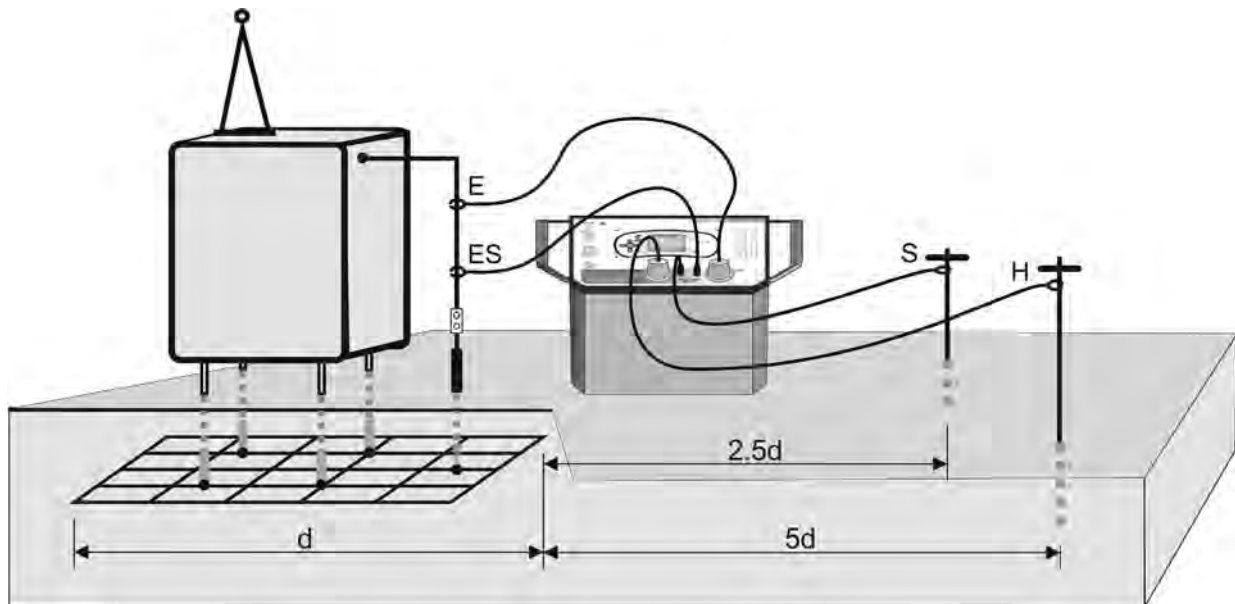

Fig. 24: Connection of instrument for earth resistance measurement
The earth resistance measurement is performed by the HT2055S station unit only by using the standard 3-wire method with two supplied auxiliary probes fitted at adequate distances from the earth system under test according to the Fig. 24
- 3 Fit the auxiliary metal probe (1m length) on the ground at a distance of least 5 times the maximum diagonal of the earth system under test (see Fig. 24). Connect the input terminal C1/H to the probe by using the 50m long cable supplied (if enough) or use another customized cable for longer distance. The nature of the measurement method permits the use of different cables without any resistance compensation. Use also more probes connected in parallel to each other if it's necessary to reduce the contact resistance on that point
- 4 Fit the auxiliary metal probe (60m length) on the ground at a distance of at least 2.5 times the maximum diagonal of the earth system under test (see Fig. 24). Connect the input terminal S to the probe by using the 50m long cable supplied (if enough) or use another customized cable for longer distance. The nature of the measurement method permits the use of different cables without any resistance compensation. Use also more probes connected in parallel to each other if it's necessary to reduce the contact resistance on that point